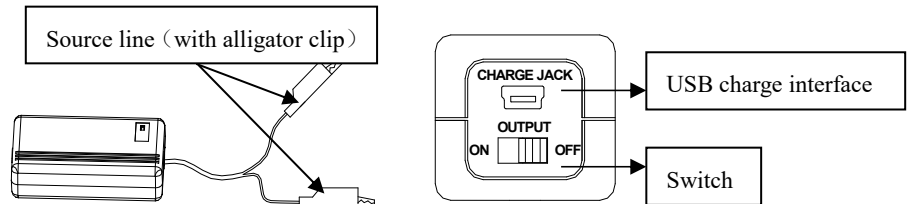

Figure 19 CA portable DC power supply
**Step 1:** Connect the 24V DC Power Supply with the instrument according to figure 19.